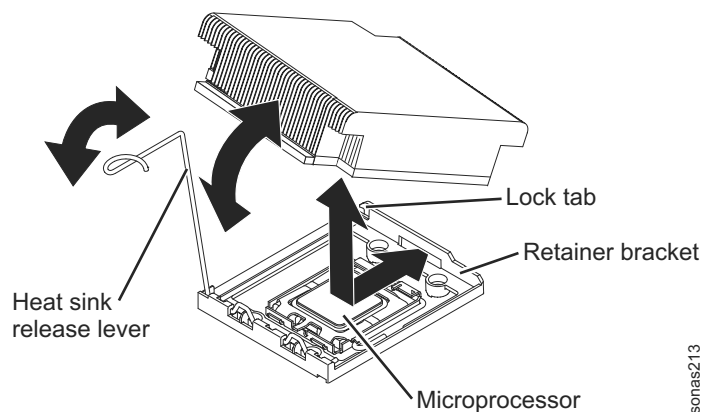

Figure 39. Heat-sink release lever
5. Open the heat-sink release lever to the fully open position. See Figure 39.